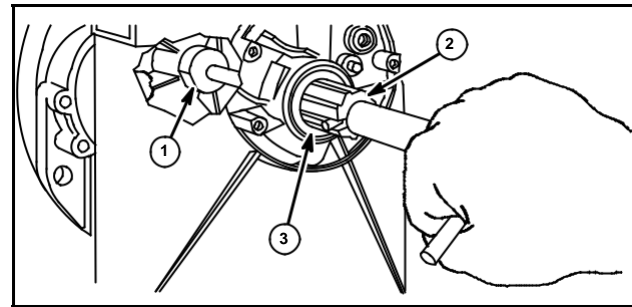

Fig. 7
1. Place reamer guide bushing (3) in oil seal bore of bearing to be repaired. The reamer guide bushing and pilot guide bushing (1) will center the counterbore reamer, even if the bearings are worn.
2. Place counterbore reamer (2) on pilot and insert into cylinder until tip of pilot enters pilot guide bushing and counterbore reamer enters reamer guide bushing, Figs. 7 and 8.